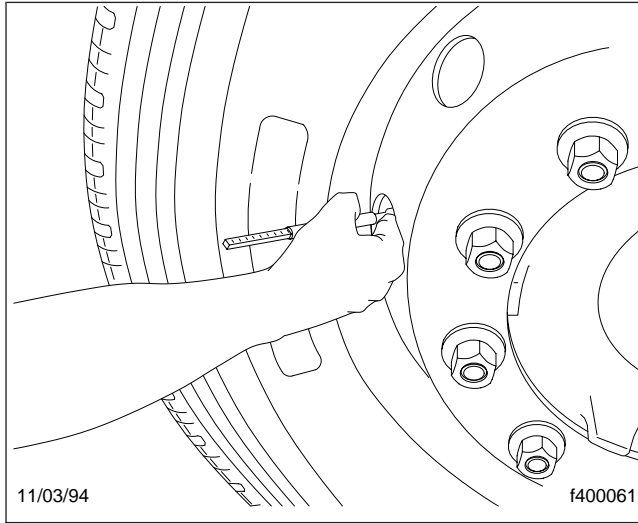

Fig. 8.11, Check Tire Inflation Pressures
- 29.1 Check the inflation pressures of the tires before each trip using an accurate tire pressure gauge. See **Fig. 8.11**. Check the tires when cool. Be sure that valve stem caps are on every tire and that they are screwed on finger-tight. Inflate the tires to the correct pressures if needed.